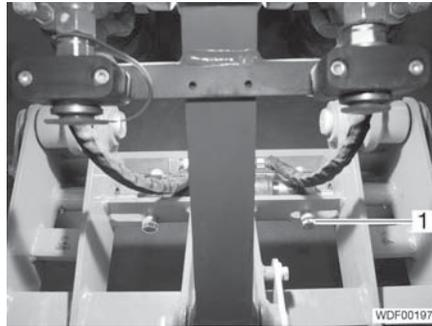

Fig. 219 Euro holder
- ▷ In the case of the Euro holder, the retaining screws (Fig. 219,1) of the locking pins are not behind a cover.